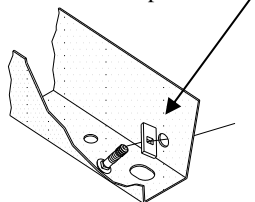

Figure 2
- Fishwire carriage bolt(s) and 1/4 x 1 x 2 block(s) through access hole(s) at end of frame. Keep bolt(s) and block(s) inside frame until hitch is in position. Leave fishwire(s) on carriage bolt(s) temporarily, see Figure 2.
- On all but later 2009's, install three (3) M12 thread forming bolts and conical toothed washers into existing unthreaded weldnuts on passenger's side as shown. Bolts will form threads.